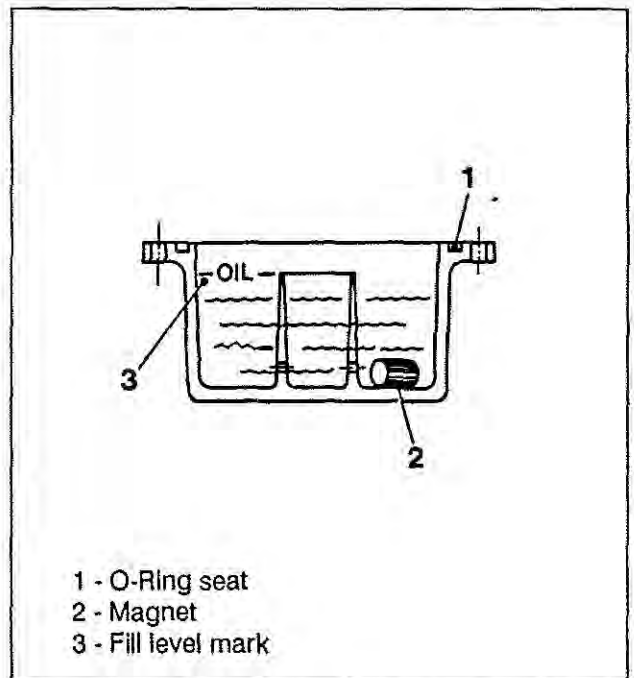

Figure 2-1 - Oil sump
- c) Insert the magnet in the outer annulus of the sump (fig. 2-1).